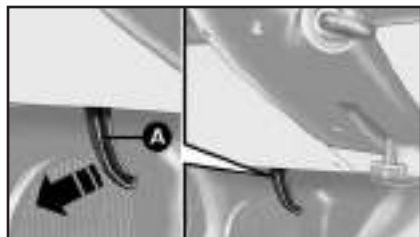

fig. 72
1) Pull lever **A**-fig. 72 in the direction of the arrow.